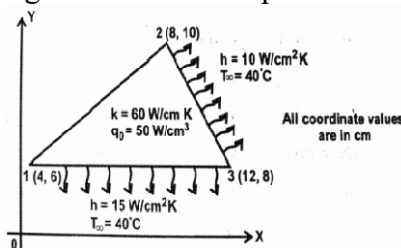

Figure-5
- b) Compute the element matrices and vectors for the element shown in figure-5. When the edges 2-3 and 1-3 experience convection heat loss. 13,K3,CO4